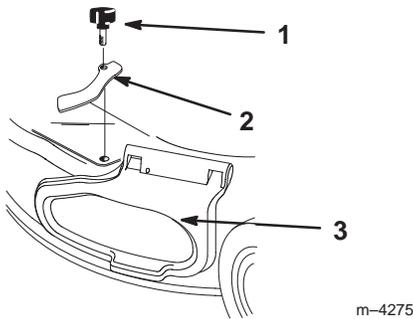

Figure 35
3. Remove the knob and side cover clamp (Fig. 35).
- Remove the knob and side cover clamp, then replace the knob in the hole and save the clamp for future use (Fig. 35).
- Lift up on the side opening cover (Fig. 35).